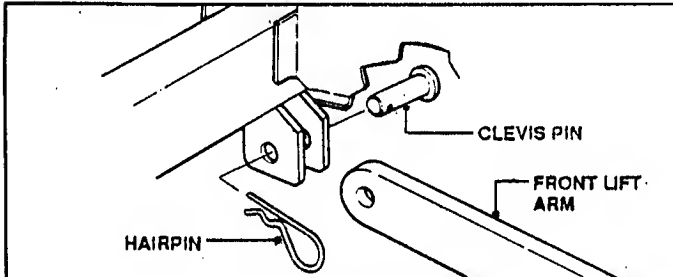

FIGURE 41
3. Remove hairpins and clevis pins from FRONT LIFT ARMS. See Figure 41.